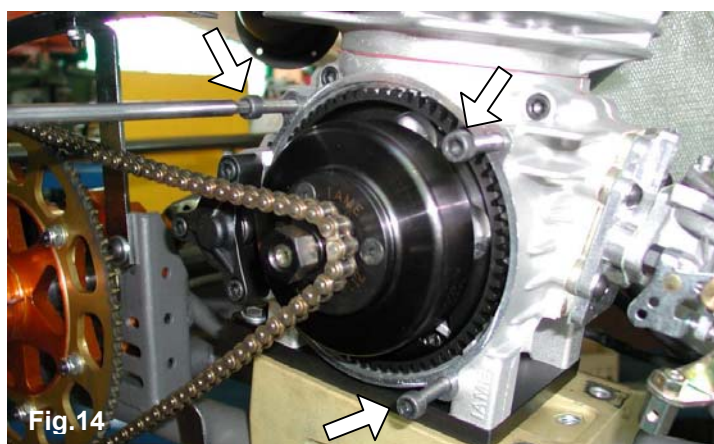
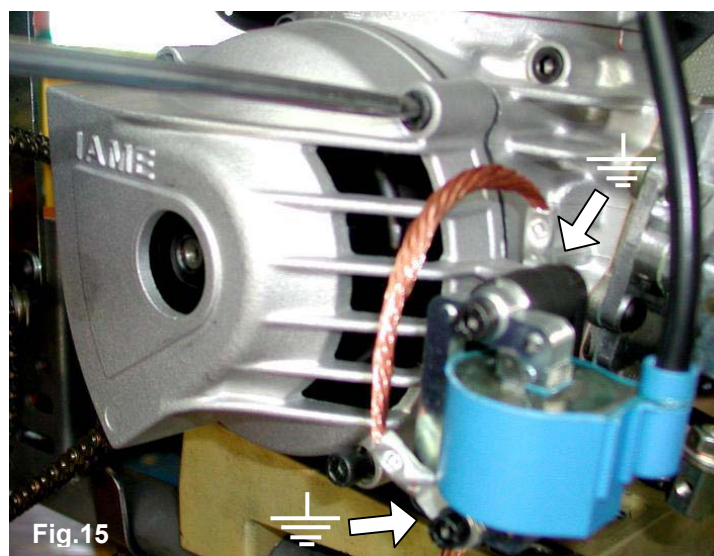

Fig.14
Fig.15
3.6.1 REMOVE THE 3 SCREWS M6 X 30 ON THE CRANKCASE (SEE FIG. 14) AND INSTALL THE CLUTCH COVER WITH H.T. COIL (SEE FIG.15).